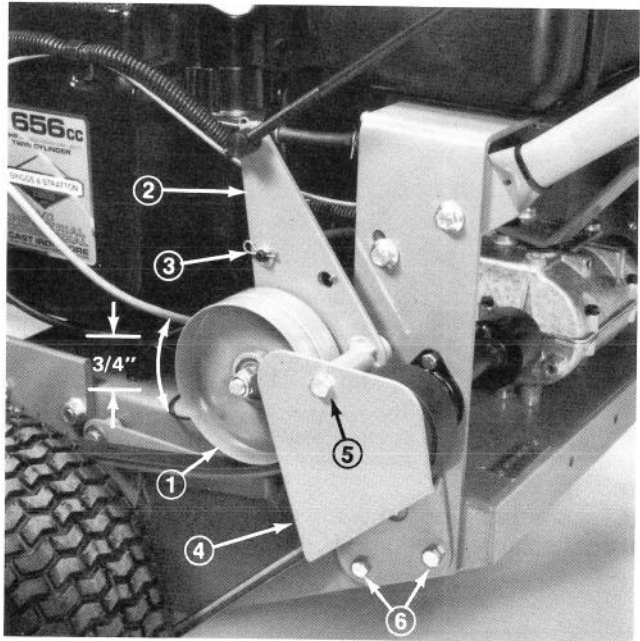

Figure 24
1. Check travel of idler pulleys when fully engaging wheel belts. Pulley travel should be approximately 3/4" (Fig. 24).
1. Remove top cap screw securing idler support and idler bracket to rear frame (Fig. 24).
2. Loosen bottom two mounting screws enough to allow belt to pass between drive pulley and idler support (Fig. 24).